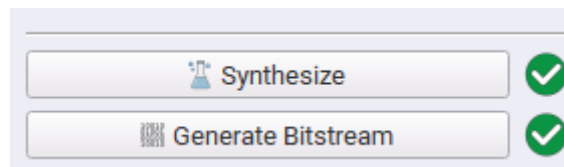

Figure 5. Synthesis and Generate Bitstream Process
1. Synthesize the project and generate a bitstream – this step is required to build models of the entire circuit within the environment (Figure 5).